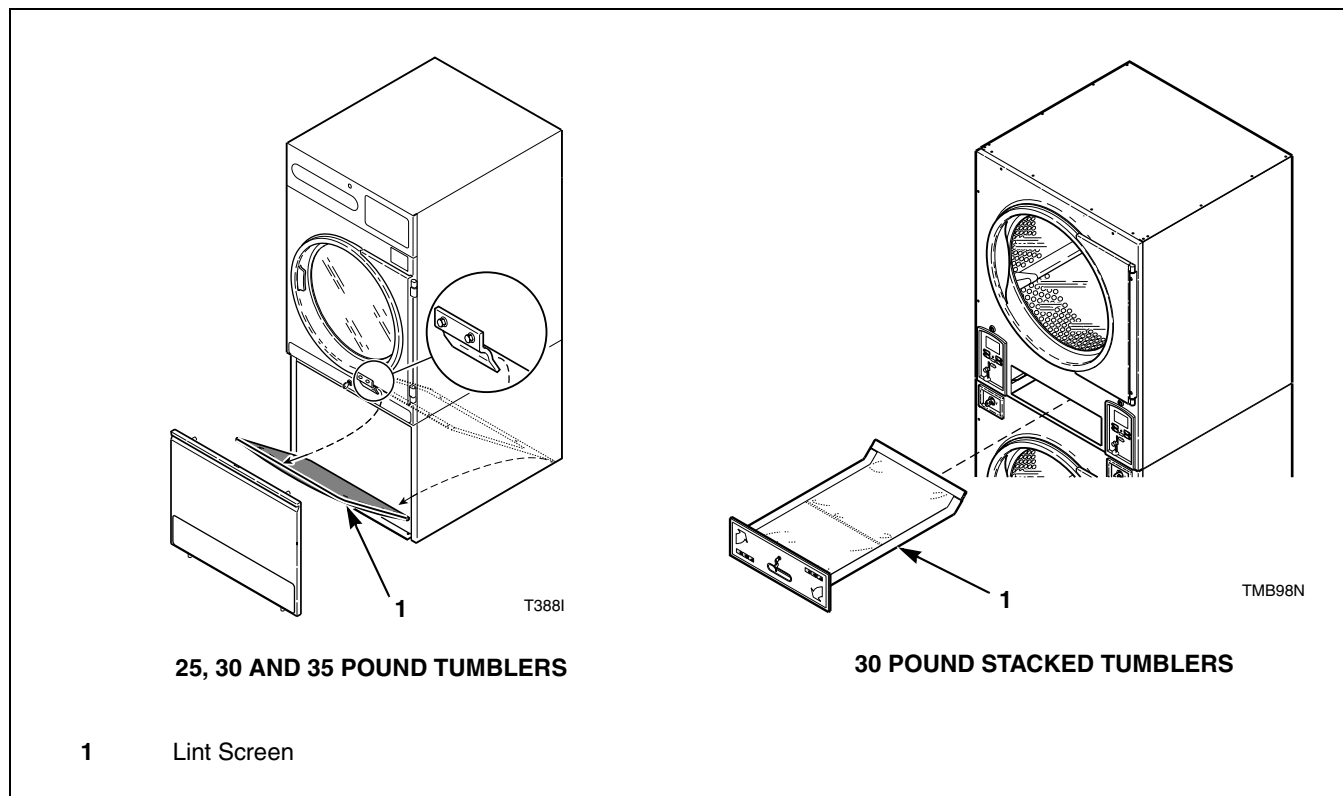

Figure 12
5. Carefully wipe any accumulated lint off of the thermostat sensing probe, cabinet high limit thermostat and thermistor. Failure to do so will allow a buildup of lint in this area to act as an insulator, causing the tumbler to overheat. Refer to *Figure 12*.